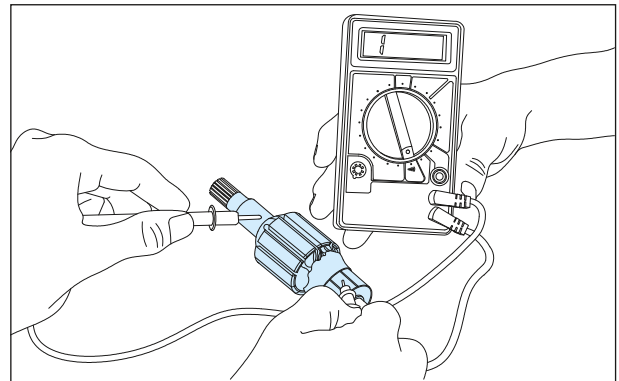

Fig. 6.46
- Check the continuity between armature coil assembly shaft and commutator segments. There should be no continuity. (Fig. 6.46)